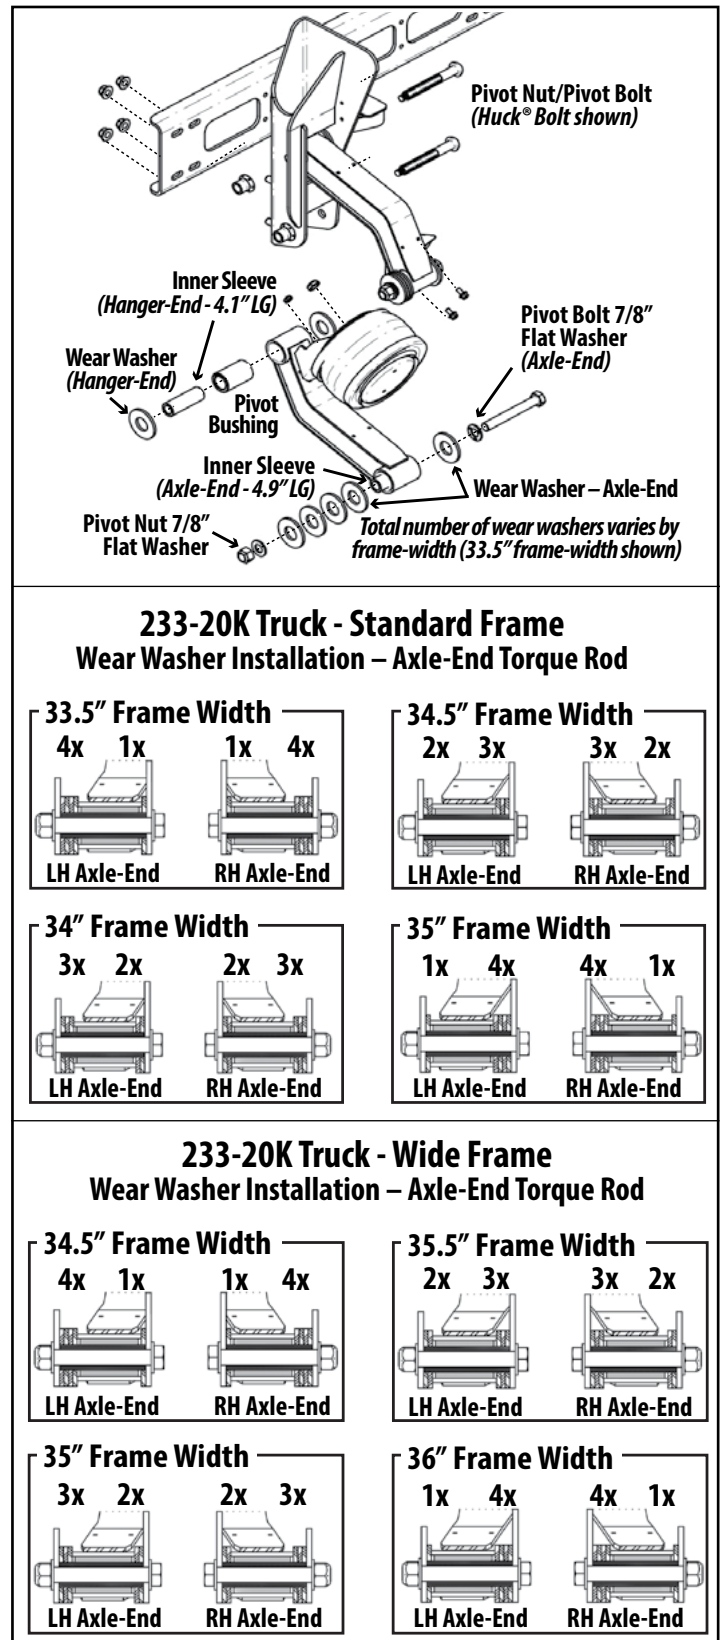

Figure 4. Replace Huck™ fasteners at the hanger-end pivot connection with traditional hardware.
- Count the wear washers on each side of the bushing on the Axle-End Torque Rod Assembly. The wear washer number varies according to the frame-width set by the hangers (Figure 4).
Press the inner sleeve into the installed bushing. Center sleeve so that both ends extend slightly past the sides of the bushing. Assemble the pivot connection with one wear washer on each side of bushing (Figure 4). Inner sleeve must be flush with or extend slightly past the outside of wear washers on both sides.